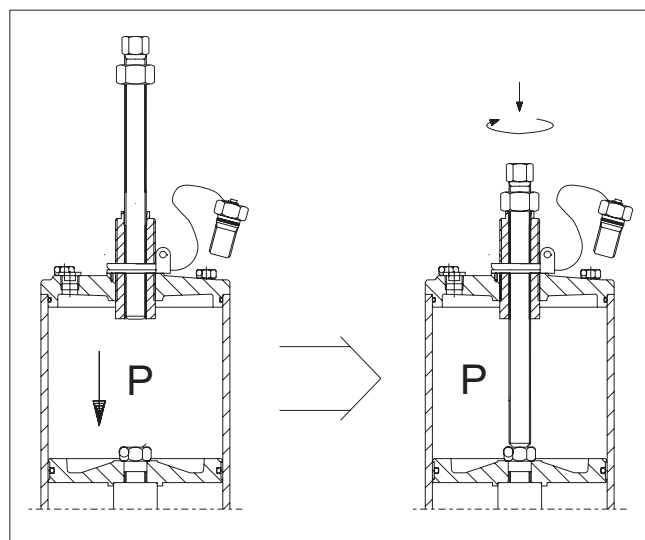

Fig. 7 Procedures to tighten the lock screw (128, 288)
- Install the cap cover (118, 287) and lock it up by pushing the pin (162, 289) through the holes in the locking plate (280, 281). You may want to secure the locking by a padlock or some other lock which can be pushed through the hole at the end of the pin (162, 289), see Fig. 7.